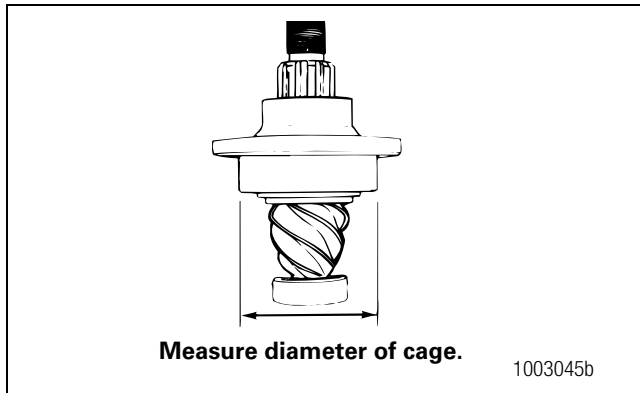

Figure 5.14
7. Measure the diameter of the bearing cage where the cord was wound. Measure in inches or centimeters. Figure 5.14.